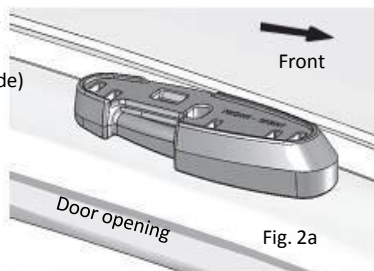

Fig. 2a
7. Using the vehicles B-Pillar place the cross bars as specified. (Fig. 2a & 2b) Note: Gasket only shown for clarity.